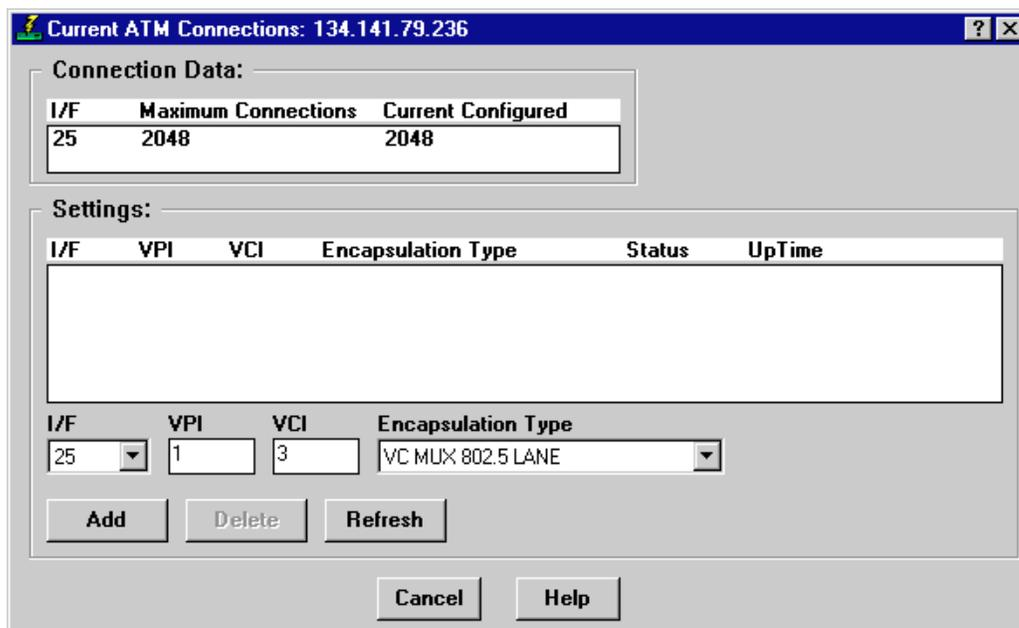

Figure 3-1. Current ATM Connections Windows
2. Click on **ATM Connections**. The Current ATM Connections window, as shown in Figure 3-1, will appear.